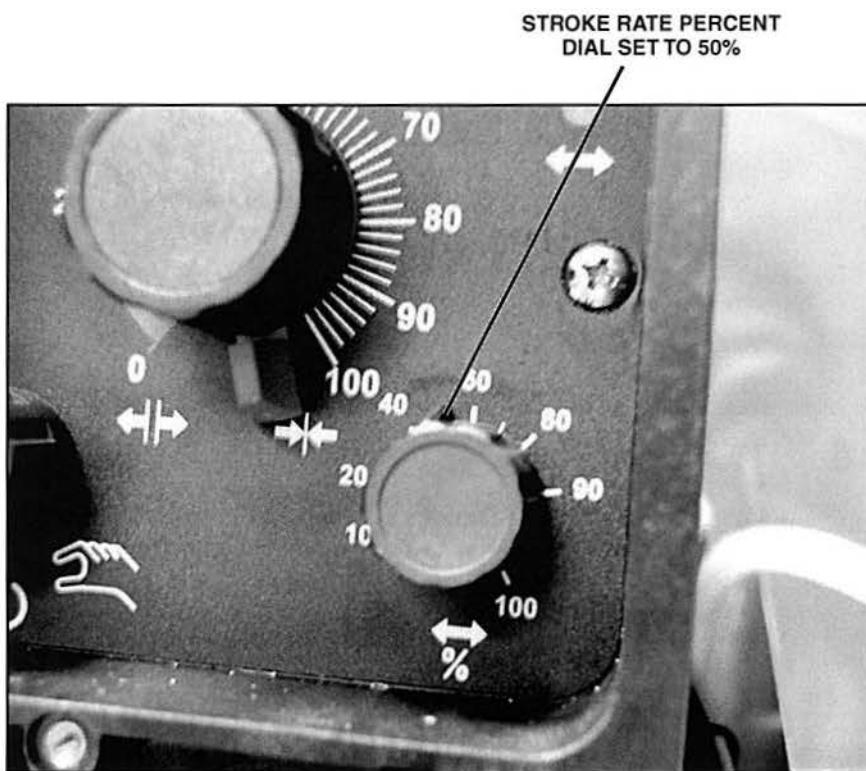

Figure 58. Stroke Rate Percent Dial Set to 50%
C. Now set the stroke rate percent dial to the 50% setting, as shown in figure 58, and again observe the stroke frequency.